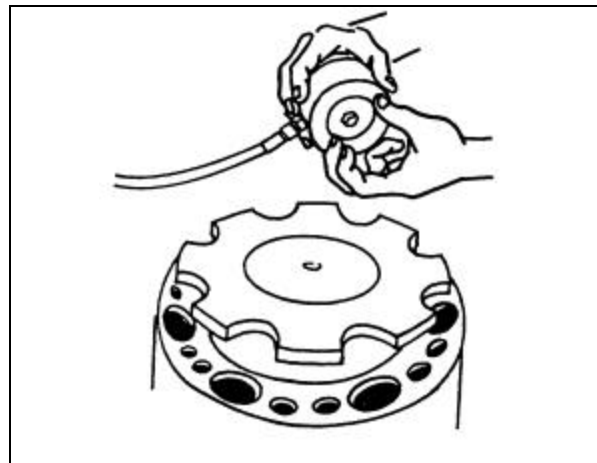

Figure 06-21: Attach and Install Inflation Body
3. Attach the Inflating Body so the hexagonal pin fits inside the Inflating Screw (Position 504). (8 mm HEX on Breakers up to 300 Series; 14 mm HEX on Breakers 500 Series and up). Check the O-Ring on the sealing face. (Figure 06-21)